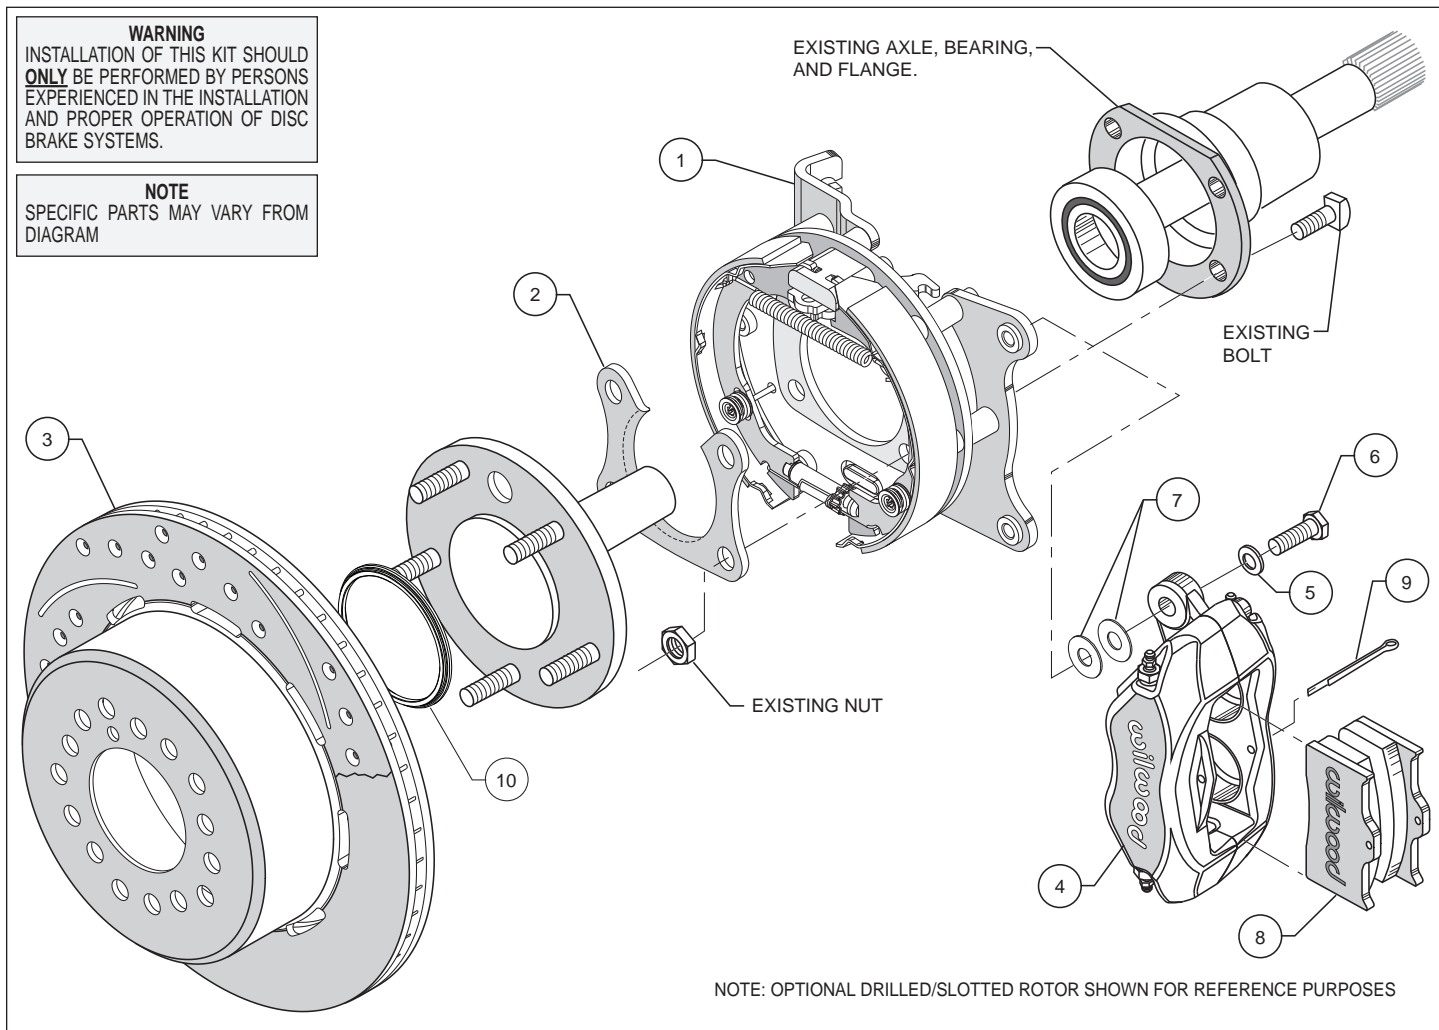
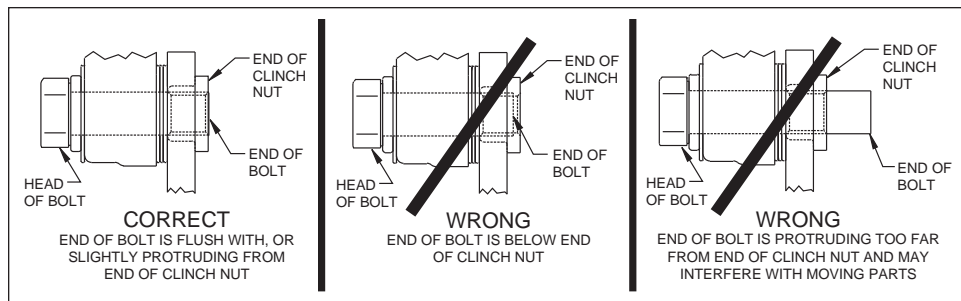

Figure 1. Typical Installation Configuration
Figure 5. Clinch Nut Engagement Diagram
Assembly Instructions (numbers in parenthesis refer to the parts list, and Figure 1 on the preceding pages): **CAUTION:** All mounting bolts must fully engage clinch nuts. Be sure to check that all bolts are either flush or protruding through flanged side of clinch nut after shimming, Figure 5.
- Orient the bracket assembly (1) as shown in Figure 1, and Photo 1, and slide it onto the axle. Insert the axle and bracket into the axle housing. Ensure that the bracket assembly backing plate fits flush against the axle housing flange.
- Install the bearing retainer (2) with the opening pointing upward and the lip facing inward (toward the bearing), as shown in Figures 1 and 4, and Photo 2. Secure retainer and bracket assembly to the axle housing flange using the Original Equipment Manufacturer (OEM) bolts and nuts, Figure 1. Apply red *Loctite*® 271 to the OEM bolt threads and torque to OEM specifications.
- Slide the rotor registration adapter (10) onto the axle register on the axle flange with the smaller O.D. facing toward the rotor/hat (3), Photo 3. Align the correct hole pattern in the rotor/hat with the stud pattern on the axle flange and slide into place, Figure 1 and Photo 4. **NOTE:** The rotor/hat must fit flush against the axle flange or excessive rotor run out may result. Install three lug nuts (finger tight) to keep the rotor/hat assembly in place while continuing with the installation. **NOTE:** Some OEM and after market axles come with stud sizes larger than 0.50" diameter. Verify stud size and have a qualified machine shop drill the bolt circle of the hat/rotor to the correct stud size, if necessary.
- NOTE:** Please reference the caution statement at the beginning of the assembly instructions. Mount the caliper (4) onto the caliper mounting bracket (1) using bolts (6) and washers (5), as shown in Figure 1. Initially place two .035" thick shims (7) on each bolt between the caliper and the bracket, Photo 5. Temporarily tighten the mounting bolts and view the rotor (3) through the top opening of the caliper. The rotor should be centered in the caliper, Photo 6. If not, adjust by adding or subtracting shims between the bracket and the caliper. Always use the same amount of shims on each of the two mounting bolts. **NOTE:** The end of each bolt must be flush with or slightly protruding from the head of the clinch nut, as shown in Figure 5. If necessary place spare shims between washer (5) and caliper mounting ear to achieve the proper clinch nut engagement. Once the caliper alignment and clinch nut engagement are correct, remove the bolts one at a time, apply red *Loctite*® 271 to bolt threads, and torque to 40 ft-lb.